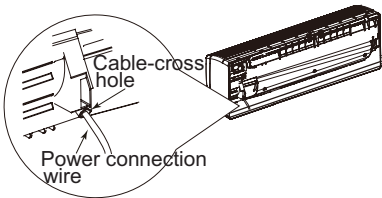

Fig.12
- (2) Make the power connection wire go through the cable-cross hole at the back of indoor unit and then pull it out from the front side. (As show in Fig.12)